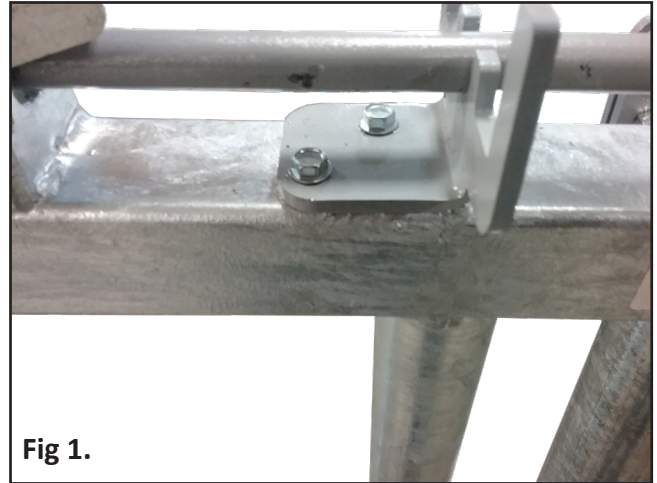
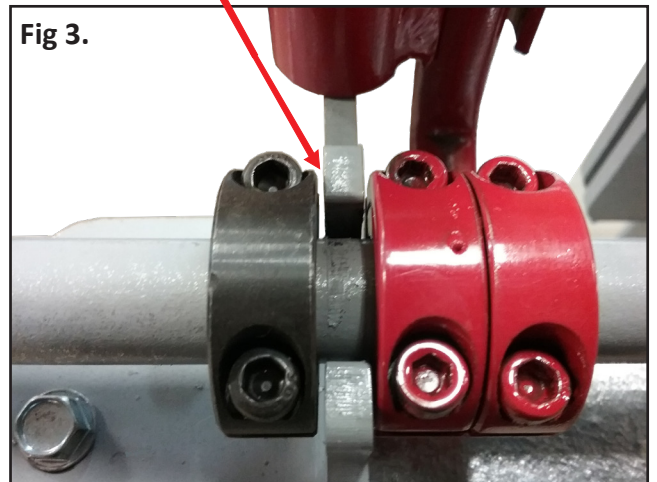
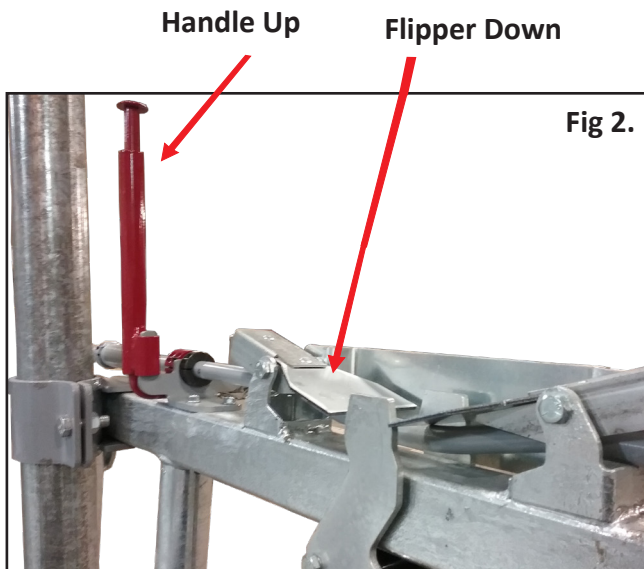

Fig 1.
Fig 3.
Fig 2.
**Step 5:** Select which lock you want to mount the handle on. The handle needs to be mounted at the end of the lock. Does not need to be at the end of a row. Install handle lock plate with self-taping screws, center above the upright tube. **See Fig 1.** Then attach the handle to the control rod and tighten double set collars with the handle in the up position. The control rod needs to be in the locked position. (Flippers Down) **See Fig 2.** Attach locking collar onto control rod on the opposite of lock plate with approximately 1/16" of clearance. **See Fig 3.**